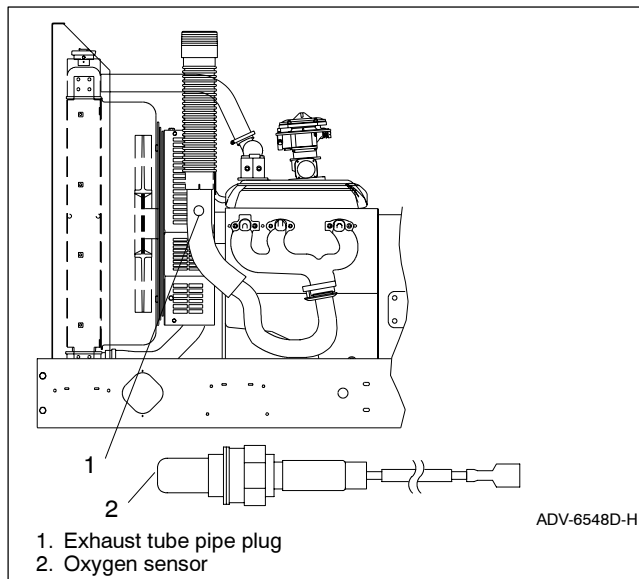

Figure 1-1 Oxygen Sensor Mounting Location, Typical (30 kW model shown)
- 2.1 Remove the oxygen sensor pipe plug from the exhaust pipe. See Figure 1-1 for location.